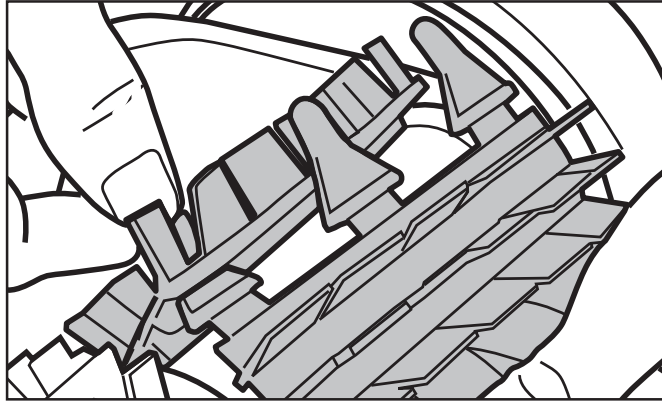

Figure 22. Pull Tabs Through Each Slot
3. Thread each tab into the slot provided and gently feed it through until the heel comes out at the other side of the slot (Figure 22).